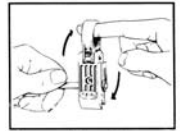

Figure 7
**F. Rotate tool** around coax about 5 times (Fig. 7). Push slide forward to next position in sequence. Rotate tool again. Then push slide forward to final position and rotate tool final 5 times.